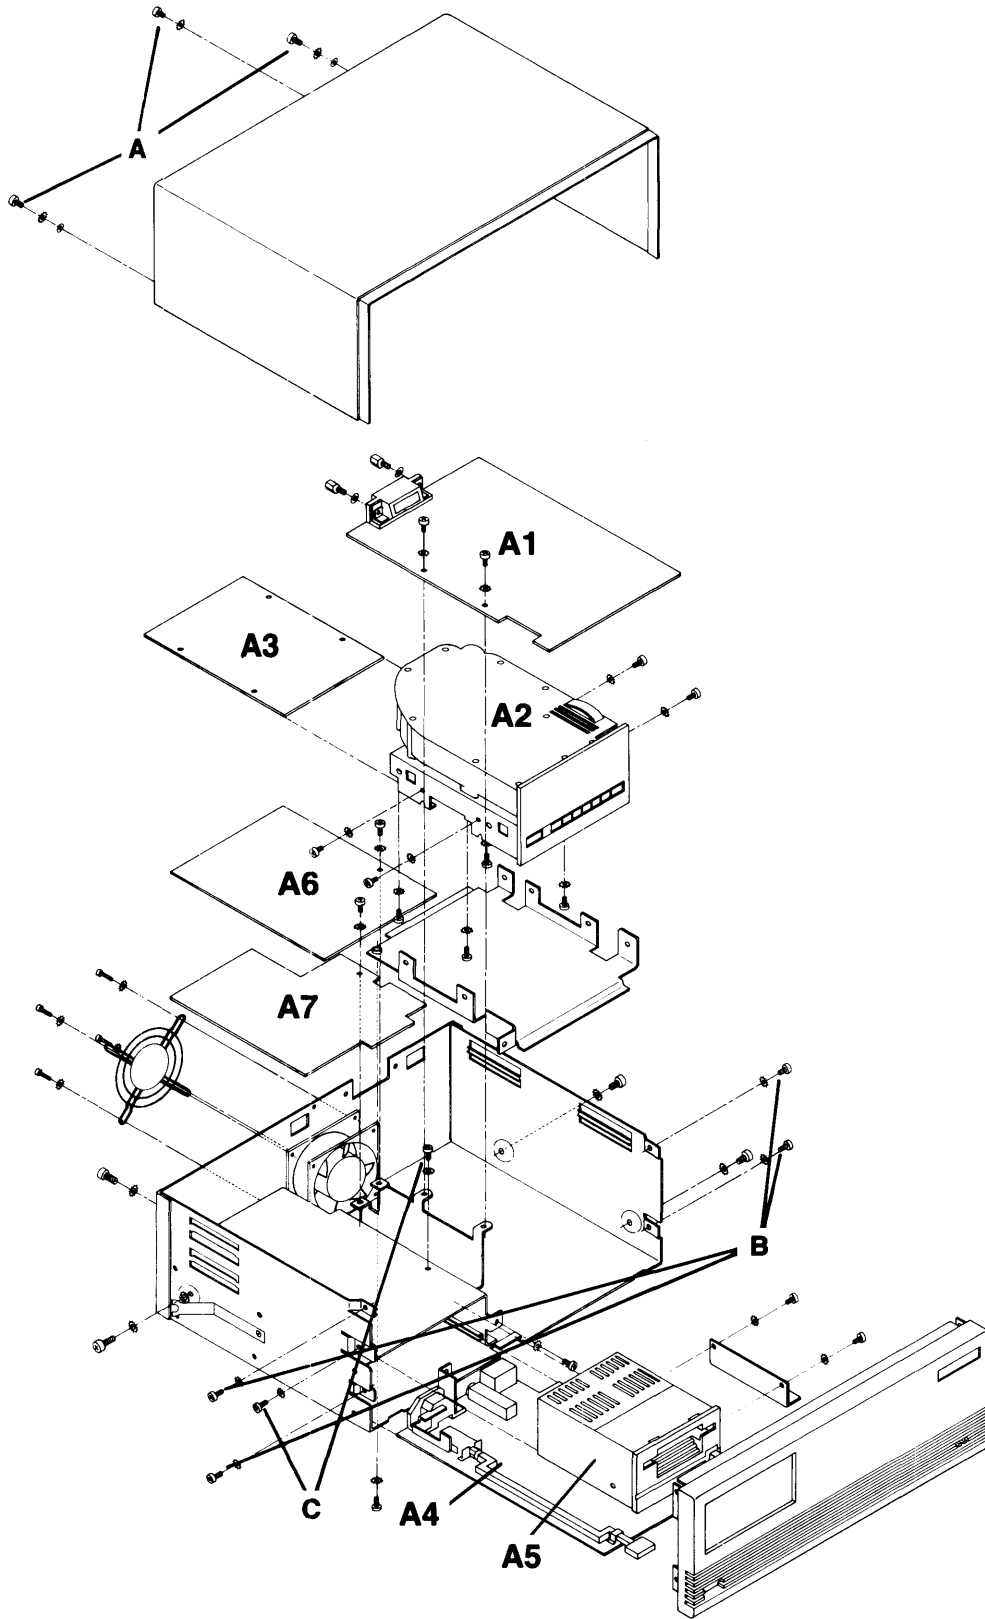

Figure 5-1. The 9133V/XV Exploded View
The Top Cover Assembly consists of an injection molded plastic shroud and a steel shield shroud. To remove the assembly, remove three screws on the rear of the instrument (marked "A" in Figure 5-1.)
2. Remove two mounting screws marked "C" on Figure 5-1. One screw is located on the front left side of the chassis; the other connects the L-shaped bracket on the right side of the drive to the power shield.